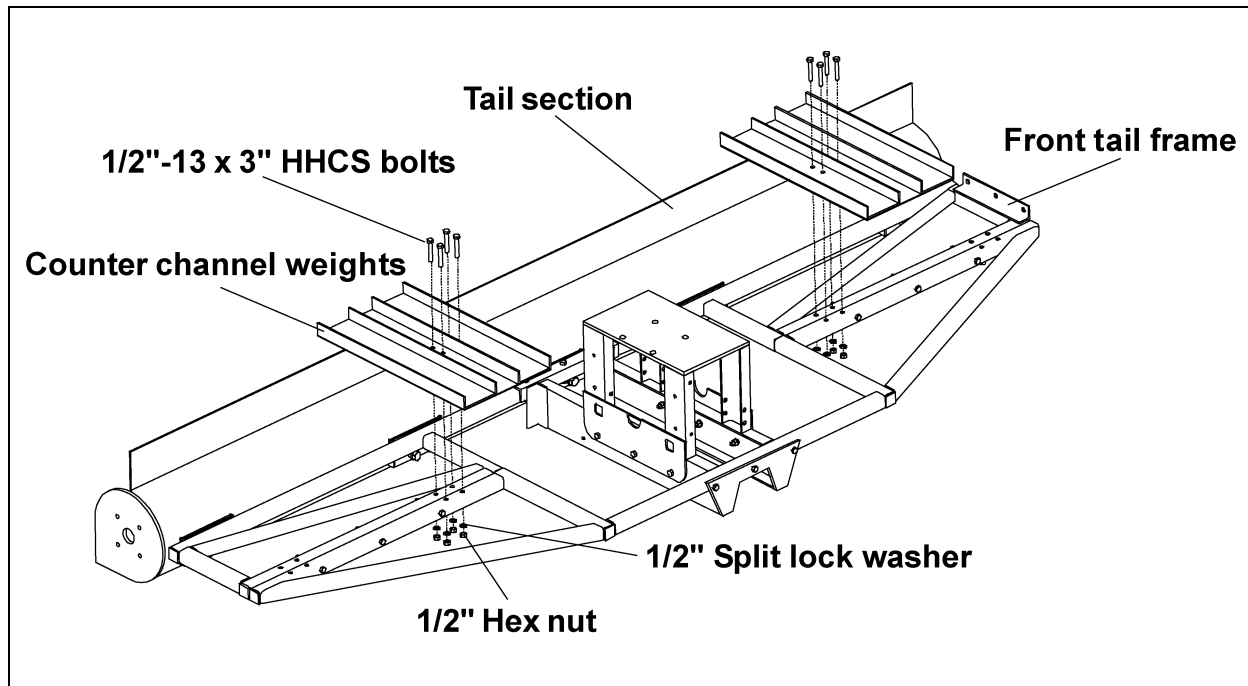

Figure 5G
7. Fasten counter weight channels to tail frame using eight (8) 1/2"-13 x 3" HHCS bolt, split lock washers and hex nuts. *(See Figure 5G.)*